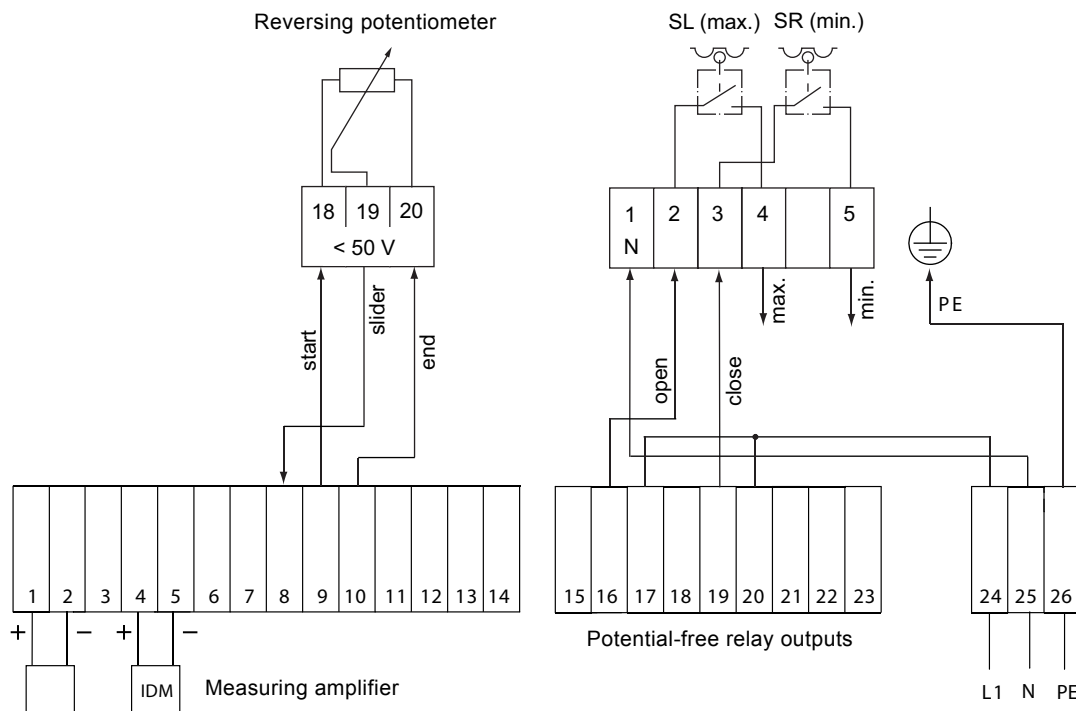

Fig. 19 Terminal connection diagram Conex® DIS-2Q
- Establish electrical connections according to the diagram shown in fig. 19.